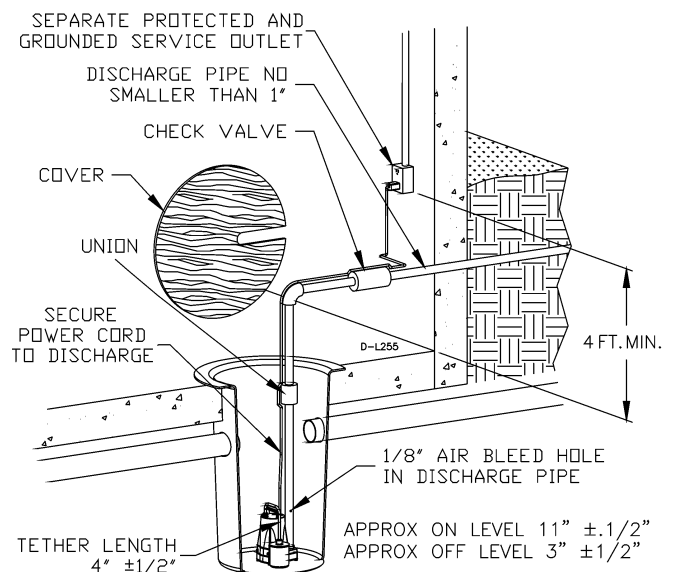

FIGURE 1
6. TEST THE PUMP AFTER ALL CONNECTIONS HAVE BEEN MADE. Run water into sump. Do not attempt to operate the pump without water; this will damage the seals and bearings and could result in permanent damage to the pump. Fill sump to normal "on" level and allow pump to remove water to the normal "off" level (Figure 1).